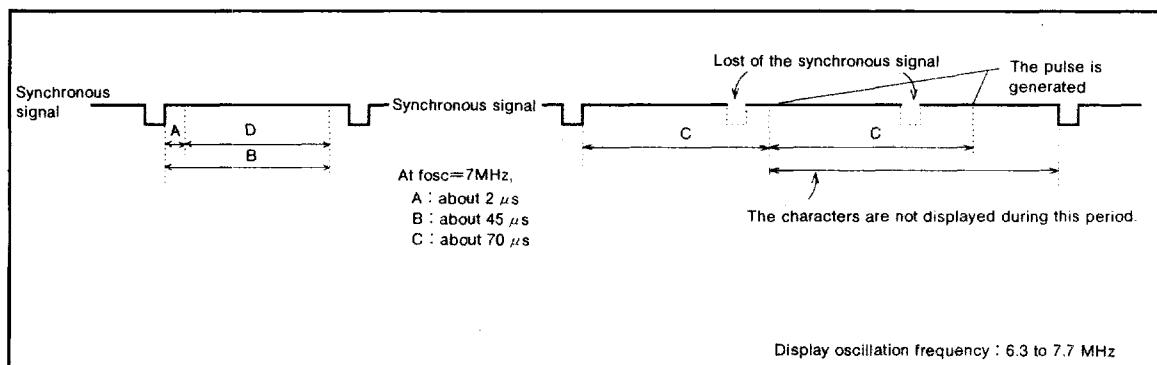

Fig. 12 Example of time base function
- (1) Time base 0—TBASE0 (DA6 of address F116)="1".
- Cut-off a noise during D period of Figure 12.
- (2) Time base 1—TBASE1 (DA7 of address F116)="1"
- Generate the pulse if the synchronous signal has not input during C period of Figure 12. And stop to display the character till the next synchronous signal is input.